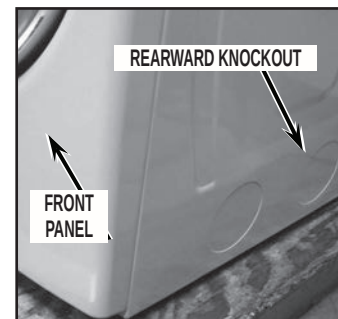

FIGURE 32
1. As you are facing the dryer, review the lower section of the right side panel. If two (2) knockout features are present remove the **MOST REARWARD KNOCKOUT ONLY**. See *Figure 32*.